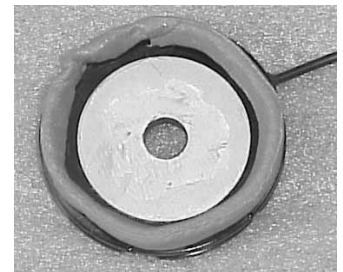

fig 1
- 1) Place the pickup on your workbench with the brass side facing up. From the supply of putty provided, run a single bead around the outside of the diameter of the brass so that the putty covers only the colored potting material outboard of the brass. This bead should be about 1/4" in diameter. If possible, no putty should be on the brass surface. See fig 1